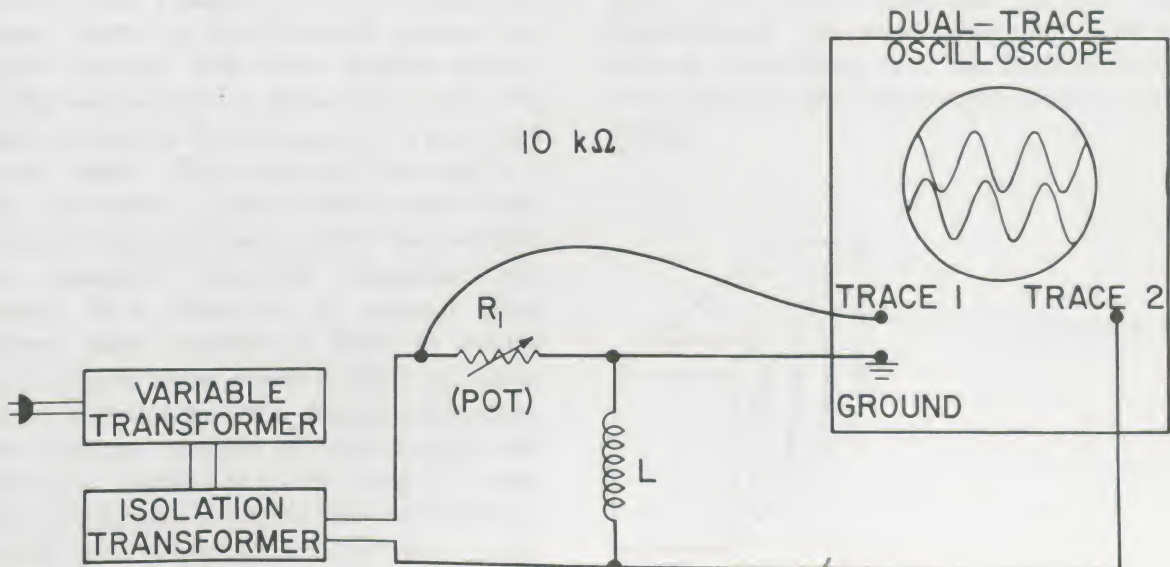

Figure 29. Finding the relative phase of the voltages across an inductor and a resistor in series.
1. Connect a potentiometer (10 k $\Omega$ ) and a large inductor (5-25 H) in series across the output of the variable transformer-isolation transformer combination. Set the variable transformer to about 30 V. (See Figure 29.)
2. As before, use either a dual-trace oscilloscope or a display alternator. Connect the scope leads as in Figure 29. Adjust the potentiometer until both traces have the same height on the scope face. Adjust the sweep time so that just over one complete cycle is visible. Now measure the phase difference between the two voltages.